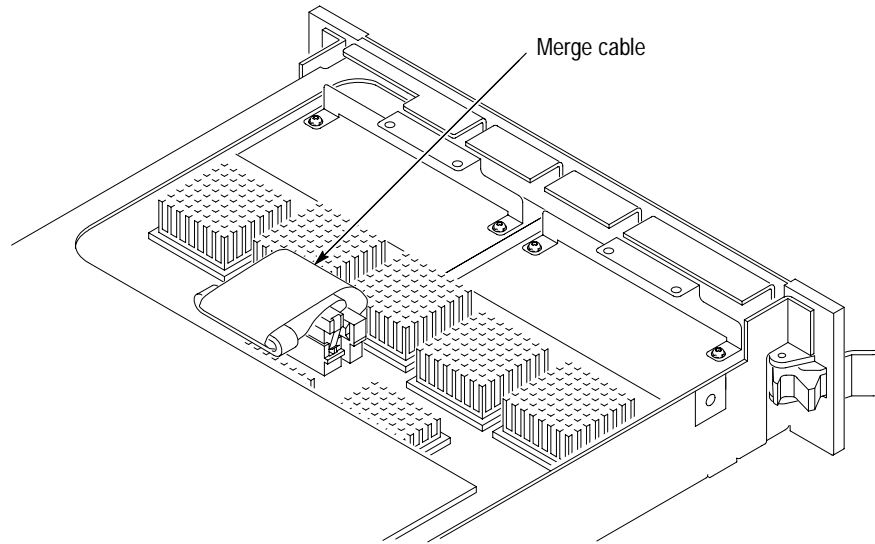

Figure 20: Dressing the Merge cable before installing the cover
5. Dress the Merge cable as shown in Figure 20.